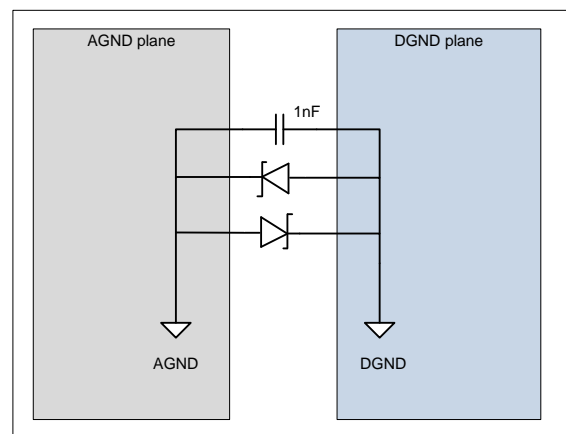

Figure 17: Grounding scheme
- ◆ Leave spacing for a ceramic 1 nF bypass capacitor and two parallel and inversed Schottky diodes near each PoE Manager (Figure 17: Grounding scheme) between the analog and digital layers. The capacitors form low impedance paths for digital driving signals.